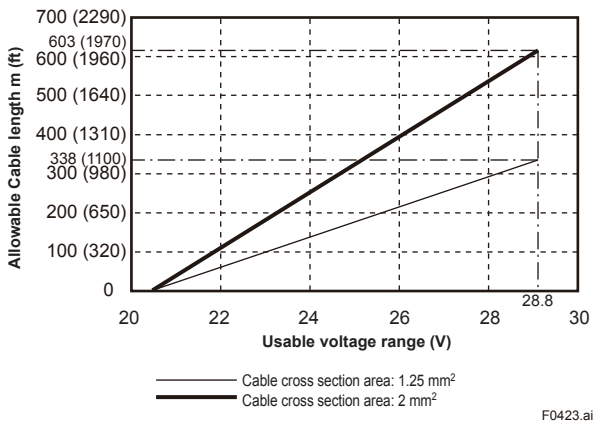

Figure 4.4.2 Supply Voltage and Power Supply Cable Length (Integral Flowmeter and AXW4A Remote Transmitter)
- For the 24 V power supply version (power supply code 2), the specification of 24 V (−15% to +20%) is the supply voltage between the terminals on the transmitter. Because of voltage drop by cable resistance, the supply voltage must be applied within the range of Figure 4.4.2.